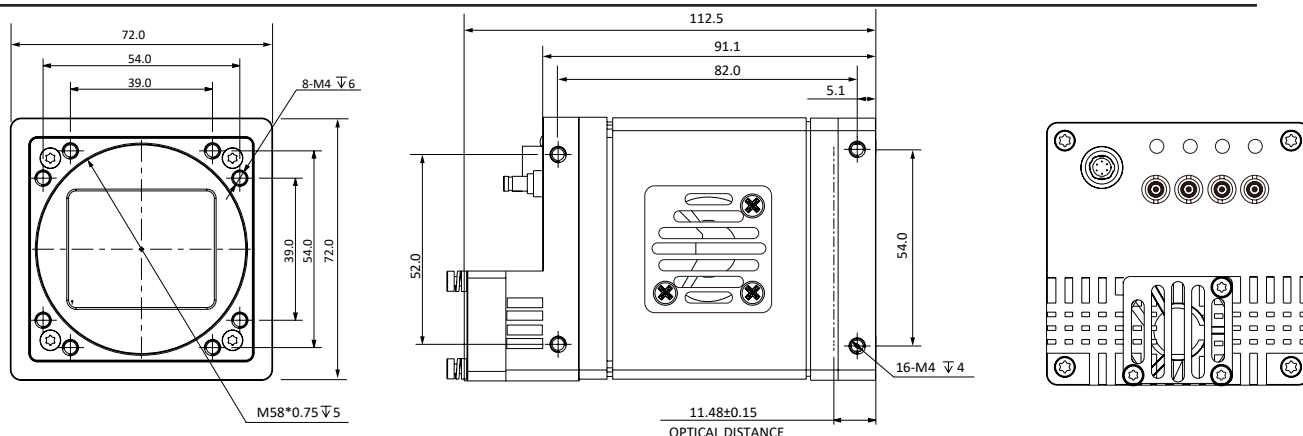

Fig. 1-8: Mechanical Dimensions (in mm) for Cameras with 72 * 72 * 91.1mm housing (M58 interface).
- Fig. 1-8: Mechanical Dimensions (in mm) for Cameras with $72 \times 72 \times 91.1$ mm housing (M58 interface).